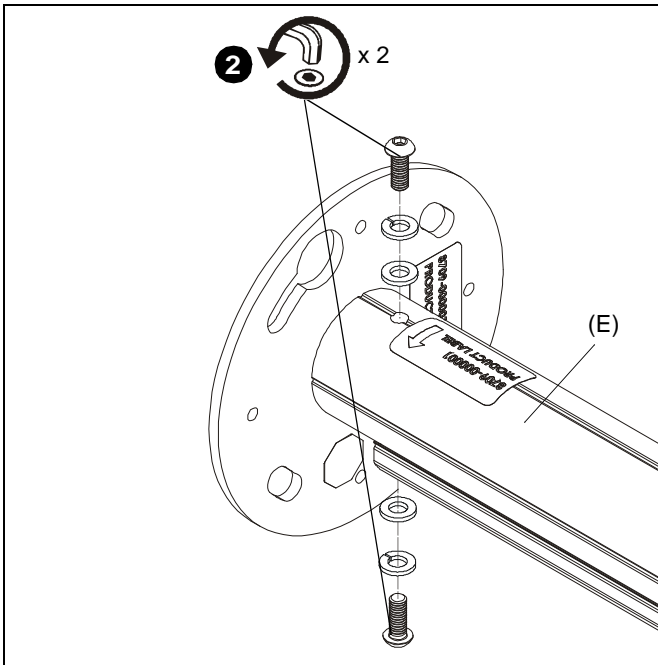

Figure 2
2. Remove two button head cap screws, two lock washers and two flat washers holding column of KITEC/KITMC Series mount (E) to adapter plate. (See Figure 2)